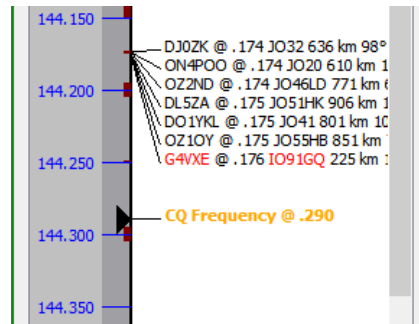

Figure 116 – Run frequency marker
- If operating in Run mode, the current Run frequency is marked on the display124 as '**CQ Frequency**', with the fractional frequency appended (see Figure 116); the marker changes colour if the rig moves off the run frequency.